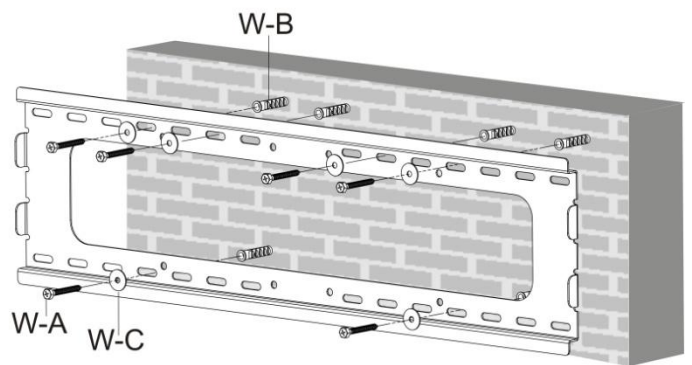

Fig. 4
- Pre-drill these holes with a 10mm masonry bit to a depth of at least 60mm. Insert a concrete anchor (W-B) into each of these holes. Attach the wall plate to the wall by using 6x lag bolts (W-A) and 6x M6 washers (W-C), as shown in Fig. 4.